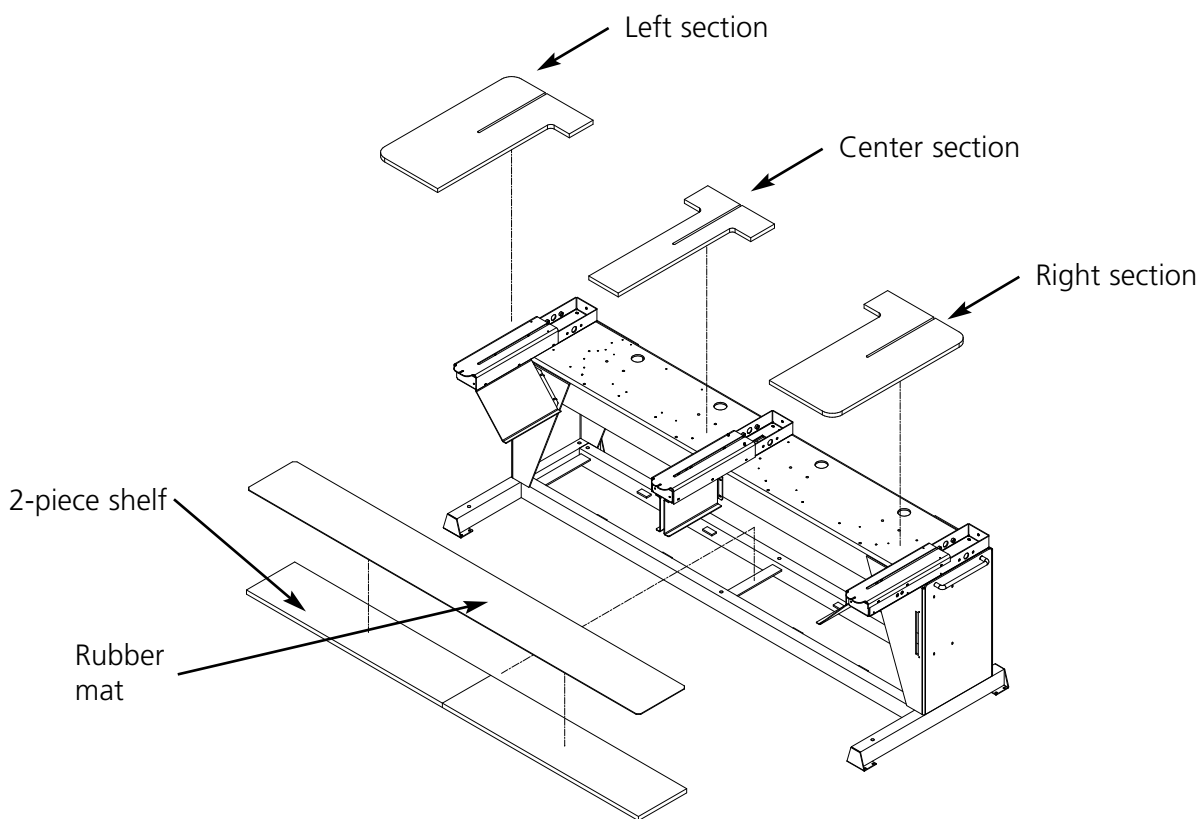
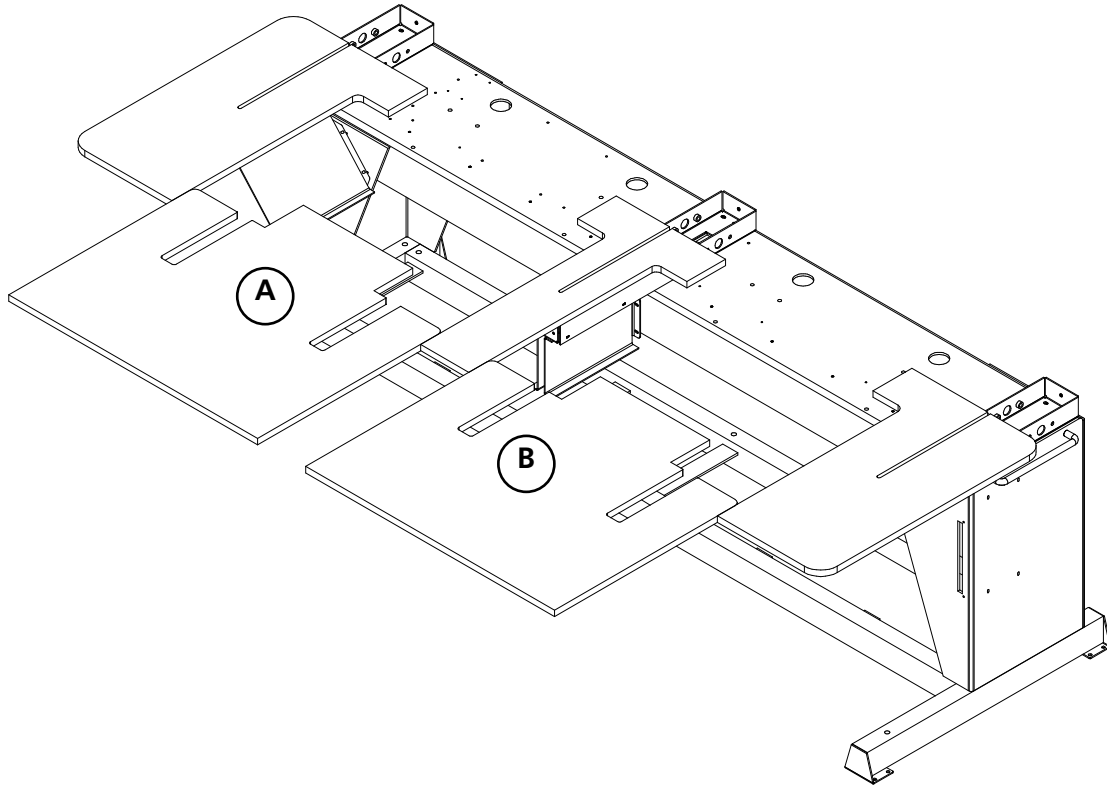

Figure 1-14
Figure 1-15
The tabletop is shipped in five parts (see Figure 1-14). The two ends and the center section slide into place in the positions shown in Figure 1-14. The remaining two sections slide into place as shown in Figure 1-15. This design makes it easy to remove the tabletop to embroider tubular goods, to embroider with a cap frame, or to perform routine maintenance.
2. There is a 2-section shelf and a covering mat that comes with the table top assembly (see Figure 1-14). Place the shelf pieces on top of the brackets located in the base of the machine and lay the mat on top of the shelf pieces.
- Slide the last two pieces into place (see Figure 1-15). They fit on the table support tabs on the end and center sections.
You **MUST remove all 5 tabletop inserts** before embroidering tubular goods or caps on the EMT 10/4 or 10/4T. Failure to do so may result in damage to the equipment or bodily injury. You may use parts **A** and **B** of the tabletop (in Figure 1-15) in the **LOW-ERED POSITION** to support heavy garments during tubular embroidery only.